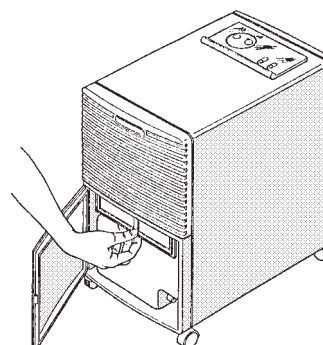

Fig. 4
- *To remove the filter, open the canister access panel, remove the canister and remove the filter by pulling downwards (fig. 4).*